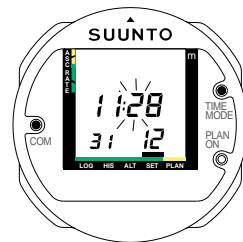
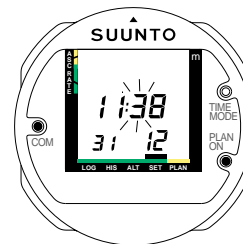

Fig. 4.14 TIME SETTING
Fig. 4.15 TIME SETTING
3. To scroll through the minute, month and date, keep the TIME/MODE and COM contacts connected. Release your fingers when the display you wish to change is blinking (Fig. 4.14). Repeat step 2 to change this value (Fig. 4.15).